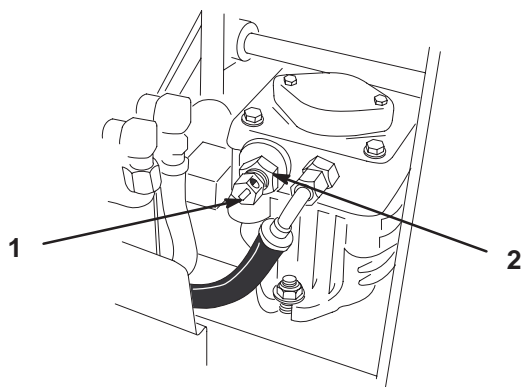

Figure 15
2. Loosen jam nuts and rotate by-pass valves open 5 turns to push. This allows hydraulic fluid to by-pass the pump and the wheels to turn (Fig. 15).